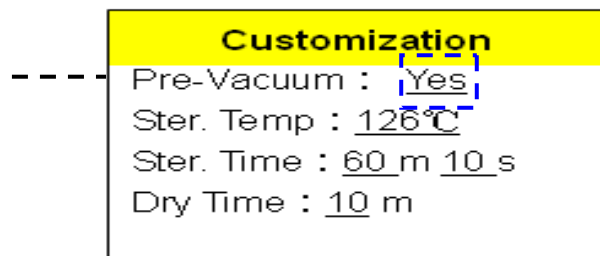

Figure 83
- D. Press  button to enter editing mode, and then press  or  button to select “Yes” or “No”. Press  button to store Pre-Vacuum parameter as shown in Figure 83.